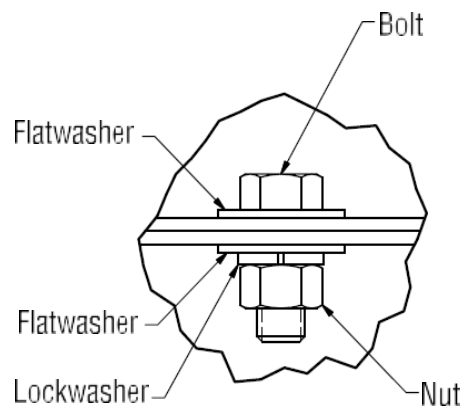

Figure 11. Typical Bolting
8. Bolt the plenum module in place at the four internal bracket locations using provided 1/2" hardware. See **Figure 11** for typical bolting detail.
- Bolt the coil module to the lower section along the louver face flange, see **Figure 11** for typical bolting detail.